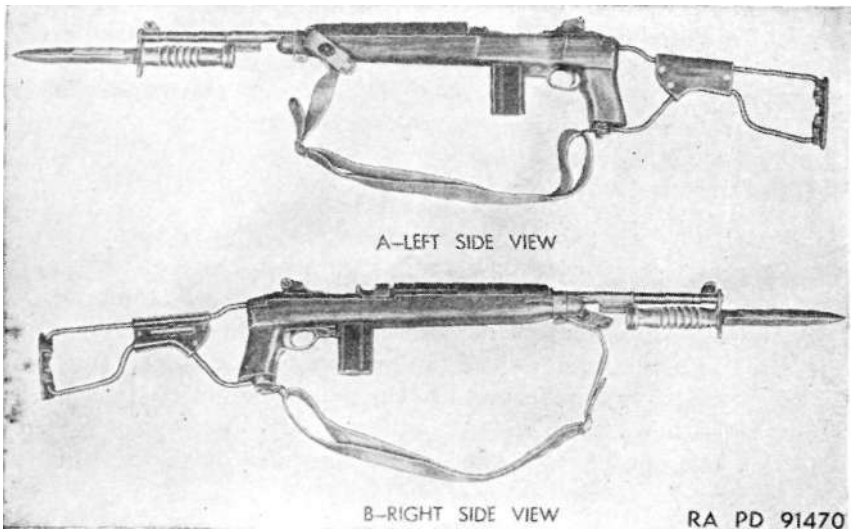

Figure 2. Carbine, cal. .30, M1A1.
b. CARBINE, CAL. .30, M1A1 (fig. 2). This model is identical with the carbine M1 with the exception of the stock. A separate grip is attached to the stock of the carbine M1A1 and a metal skeleton folding stock extension is hinged to the grip and to the rear end of the stock. The sling is attached to the sling swivel on the front band and to a slot in the lower hinge assembly on the grip.